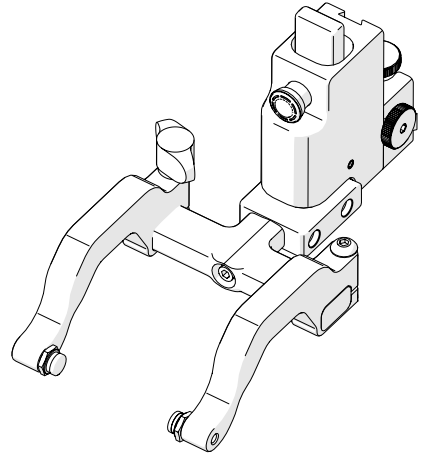

Fig. 65 - 90° probe holder positioning
2. Orient the yoke to the front of the probe holder and screw the yoke into the threaded hole provided (*Fig. 65*).